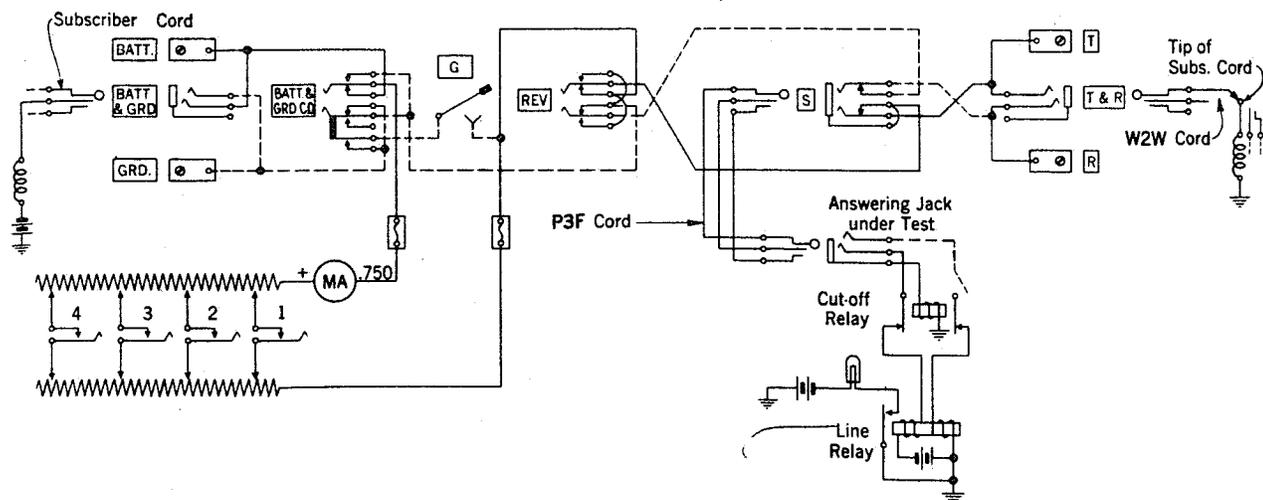

Fig. 6 - Cut-Off Relay - Battery on Ring, Tip Open.
3.22 Insert the plug of the W2W cord into the T&R jack of the test set, and connect the No. 365 tool attached to the tip (white) conductor to the tip of a subscriber cord. The line lamp associated with the answering jack under test should light. See Fig. 6.